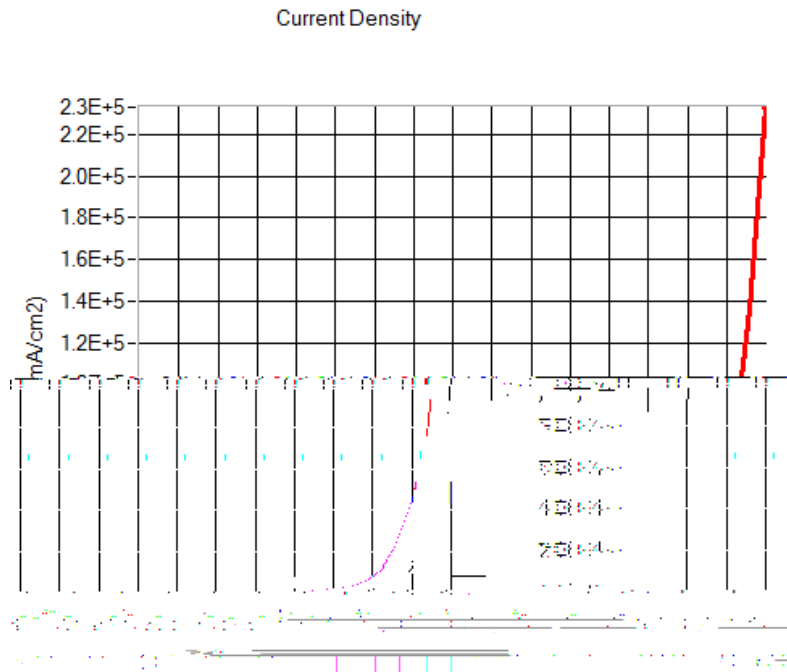

Figure 9: I-V curve of the solar cell under illumination exported from SCAPS.
- 10) The user can also chose to simulate the performance of the solar cell under illumination E\FOLFNLQJ 3/LJKW' RQ WKH DFWLRQ SURJ SDOHO 7KH SURJ illumination which the user can use to calculate the efficiency of the solar cell. Figure 9 shows the I-V curve of the solar cell under illumination.
In order to calculate the efficiency of the solar cells the user can find the I-V curve under illumination and obtain from the curve the following parameters which are all shown in figure 9.